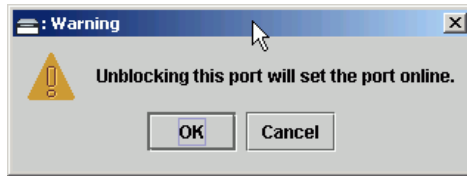

Figure 4-36 Warning Dialog Box
5. Select the *Block Port* menu option. Note the check mark in the box adjacent to the menu item, indicating the port is blocked. A *Warning* dialog box displays (Figure 4-36 on page 4-54).